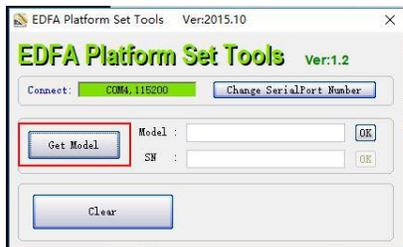

Figure 8.2.9
8. Change the device model display: Click the "Get display information" button, the current device display model will be displayed in the right "model" corresponding dialog box. As shown in Figure 8.2.9 and 8.2.10.